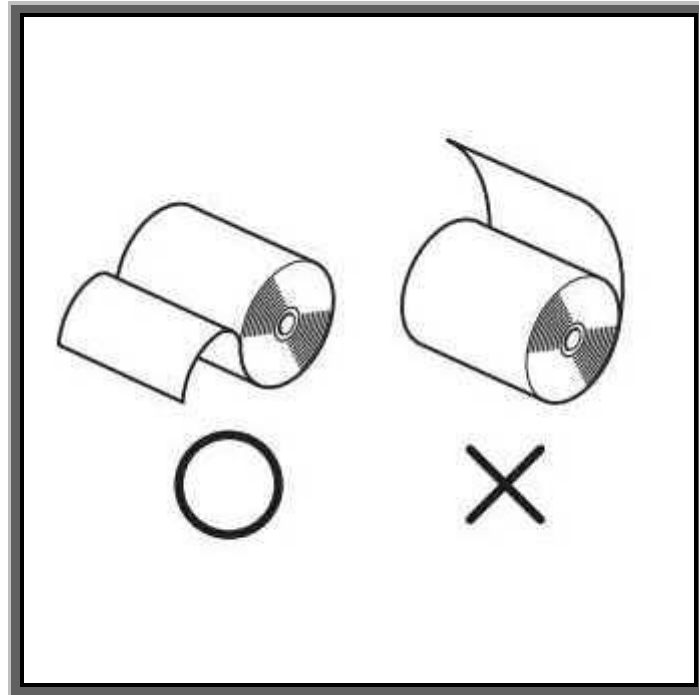

Fig. AP1-3
3. The correct direction to install a paper roll is shown in Fig. AP1-3. The outside of paper roll is the printing side should be facing down.